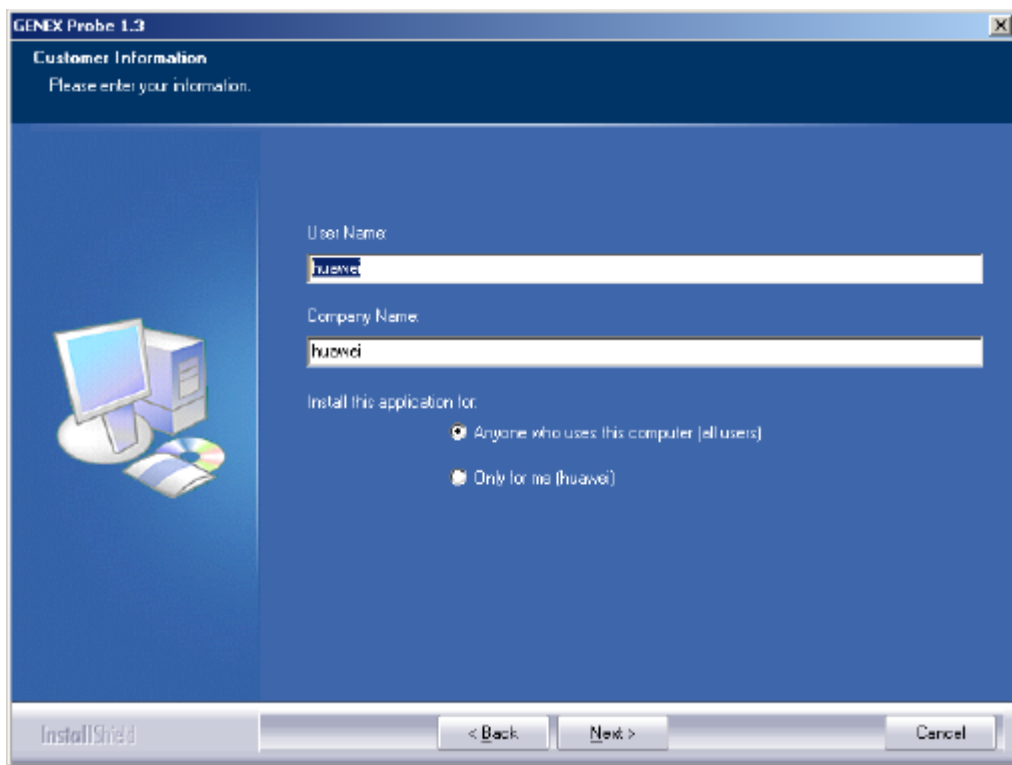

Figure 4-2 Customer Information dialog box
- 3) Click **Next**, as shown in Figure 4-2.